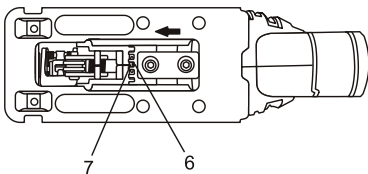

Fig. 5
- Slide the base forward to engage the bevel angle slot (6) with the indexing pin (7) (Fig. 5)